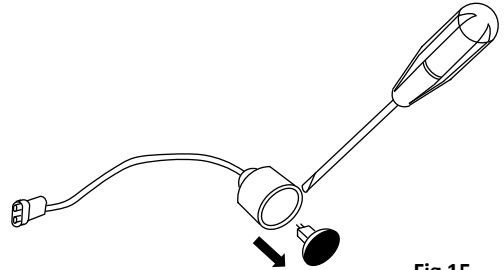

Fig 15
**Dichroic lamp G4 attachment:** Use a screwdriver to remove and change the dichroic lamp (Fig 15).